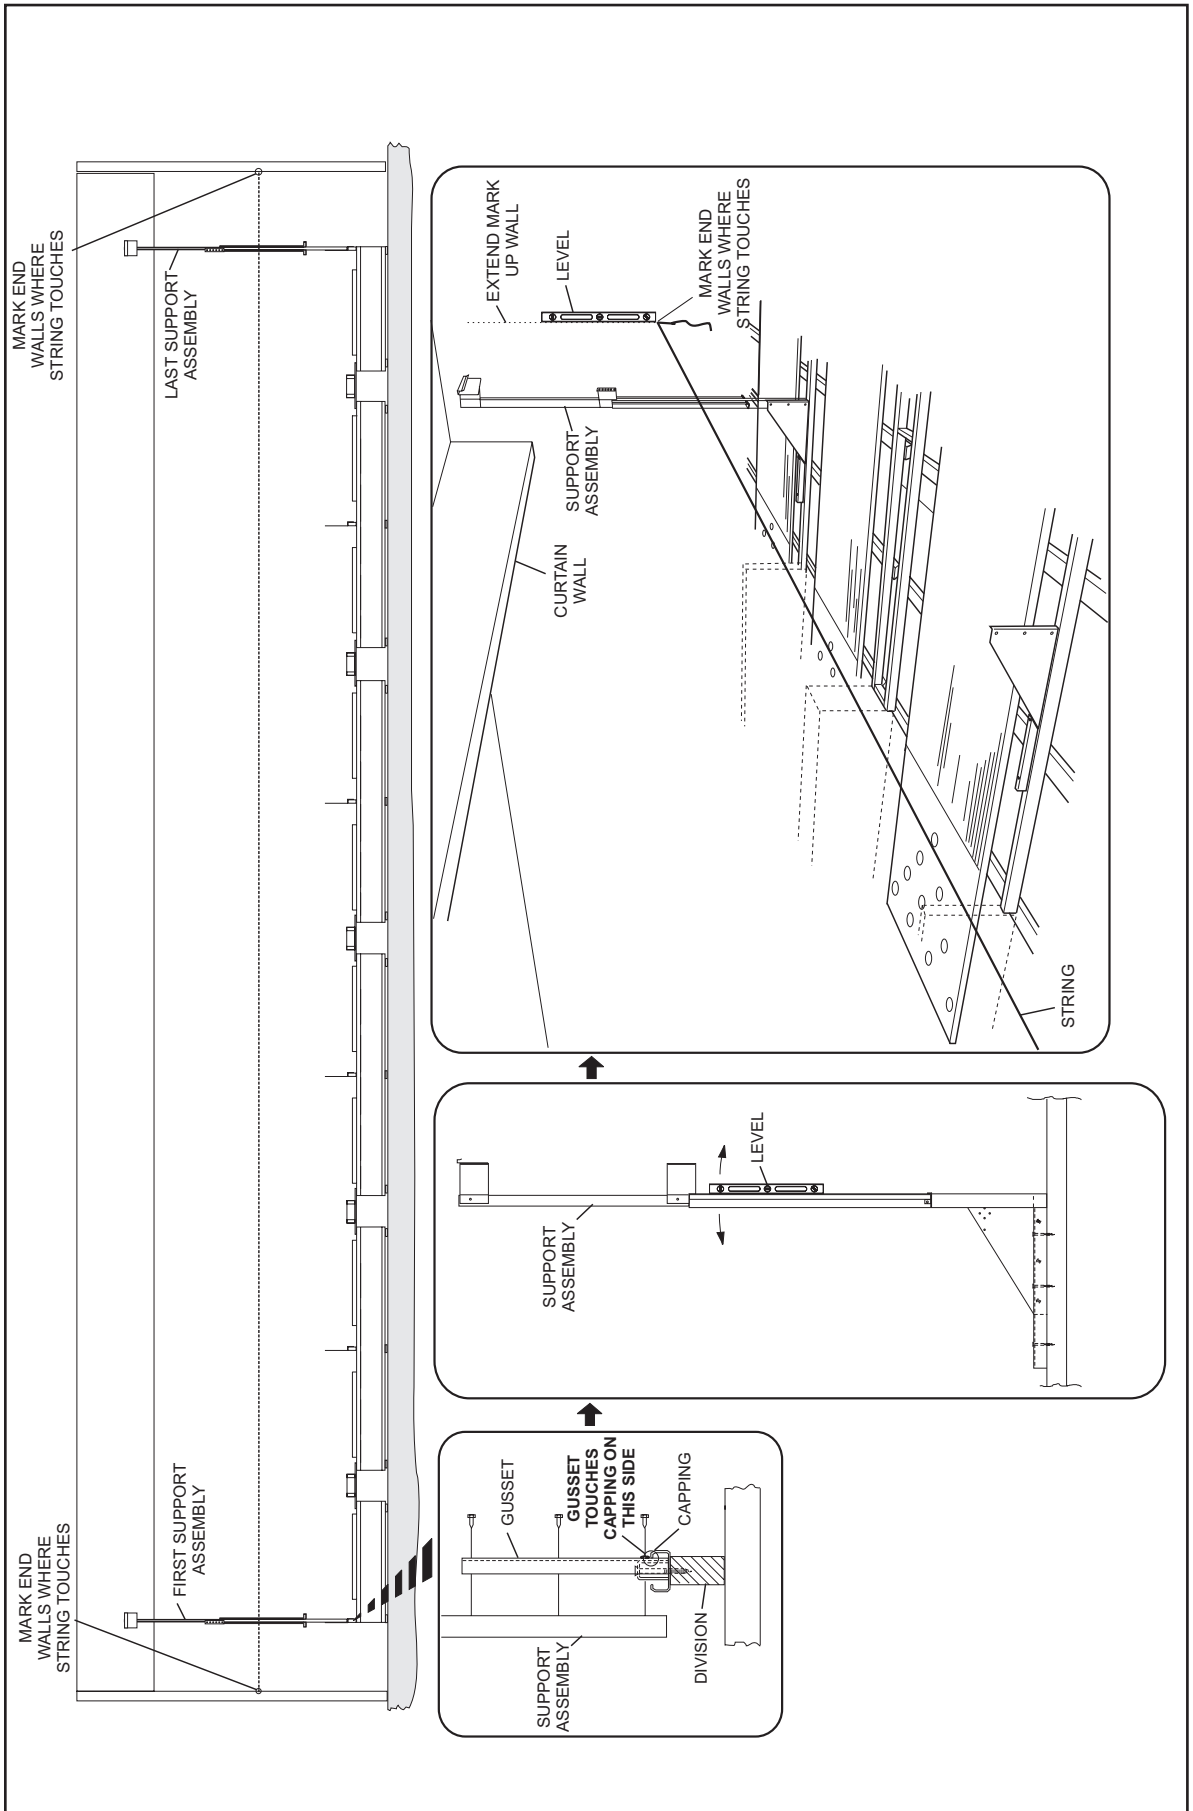

Figure 34
1. Position support assemblies on the mounting gussets with hardware provided. Refer to *Figure 34*.
2. Make plumb and tighten. Refer to *Figure 34*.
3. Stretch a line from left end wall to right end wall so it just touches the face of the plumbed support assemblies. Refer to *Figure 34*.
4. Mark end walls where string meets them and extend vertically plumbed line up wall to position of end wall support mounting bracket. Refer to *Figure 34*.